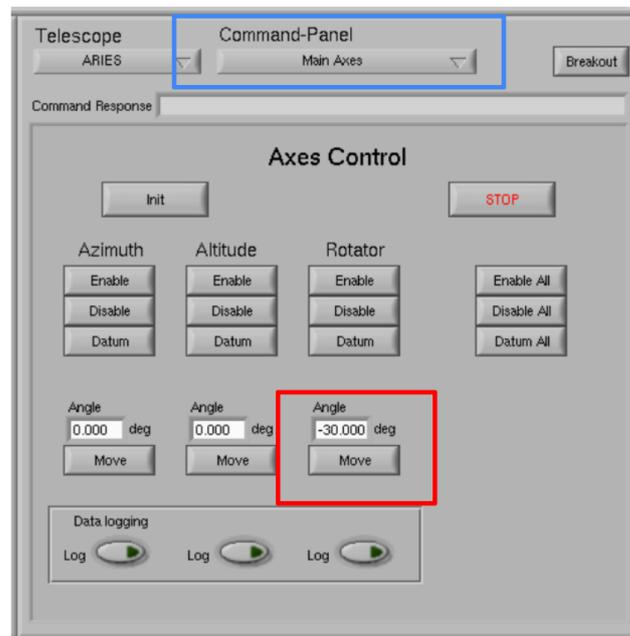

Figure 12: Panel to provide rotator offset for TANSPEC spectroscopy on TCS main window.
1. Select **Main Axis** in the command panel. See the blue box in Figure 12
2. Enter **-30 degree** in the Angle shown in the red box in Figure 12.